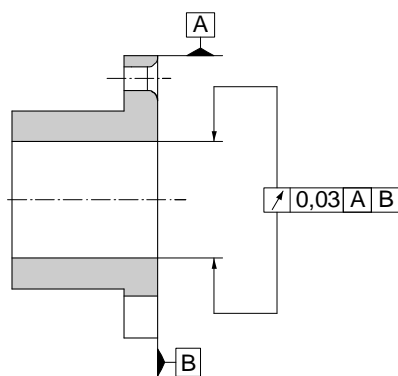

Fig. 2
- The recommended bore tolerances are to be produced using the position and tolerance width as references; at the same time, please keep to the shaft run-out and axial run-out tolerances of 0,03 (see Fig. 2).